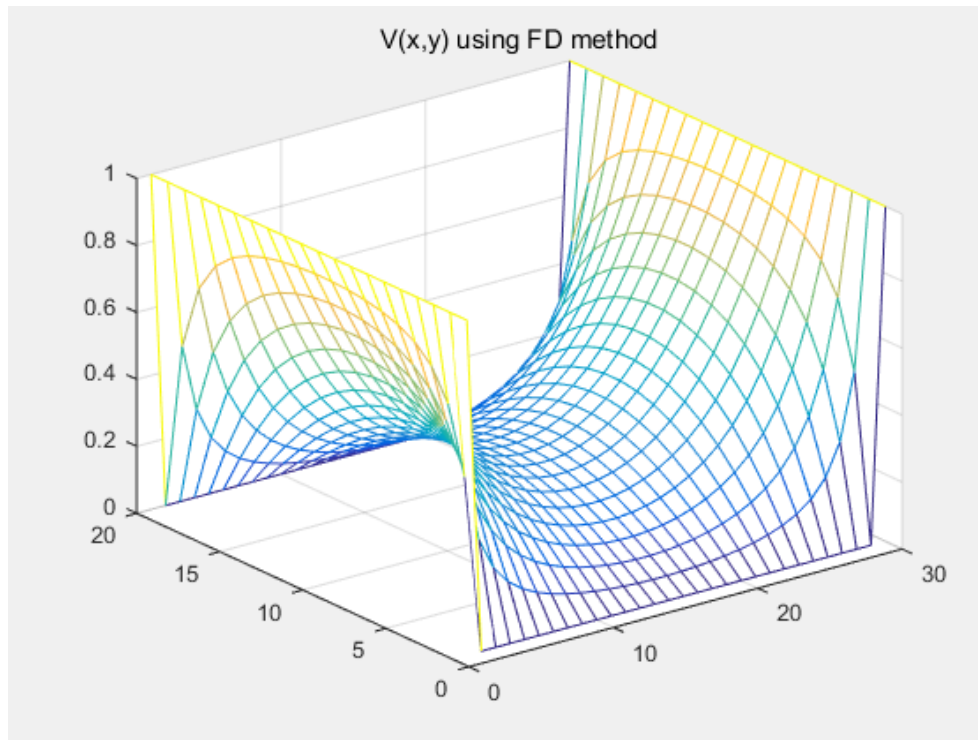

Figure 2: $V(x,y)$ using FD method
- b) Surface plot for $V(x,y)$ using Finite Difference method is shown in Figure 2.